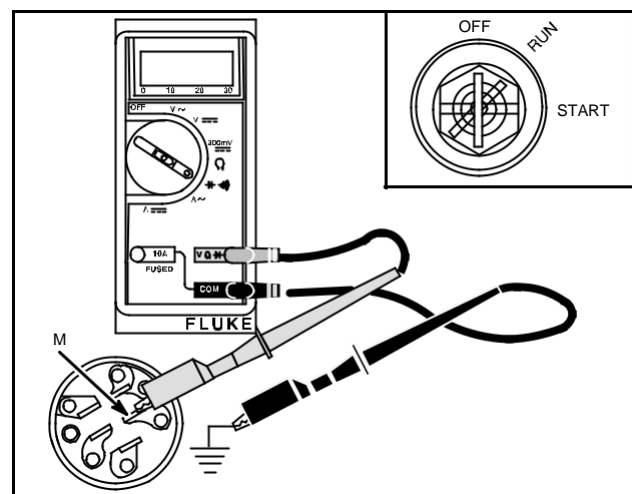

Fig. 37 – Checking Stop Switch Circuit
1. Connect one meter lead to stop switch terminal (M) and other lead to a good ground. If key switch is mounted to an insulated panel, use ground terminal (G), Fig. 37.
3. With key in "RUN" and "START" position there should be no continuity, Fig. 37.
**NOTE:** Ground terminal (G) is grounded to switch case. If meter indicates continuity when key is in "RUN" and "START" position, switch is defective.